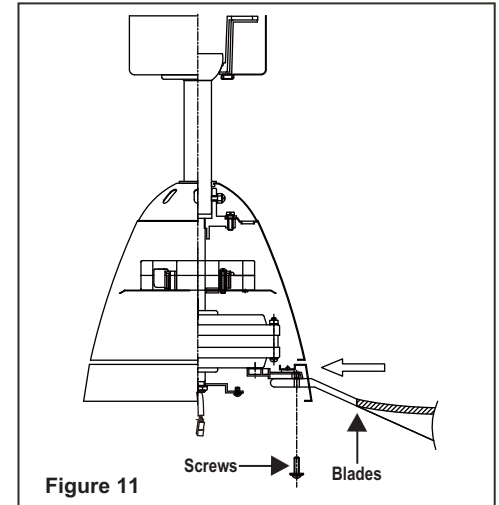

Figure 11
**Step 1.** Insert the blade through the slot in the housing. Align the holes in the blade and the fan motor assembly and secure with the screw and rubber washer. (Fig. 11)